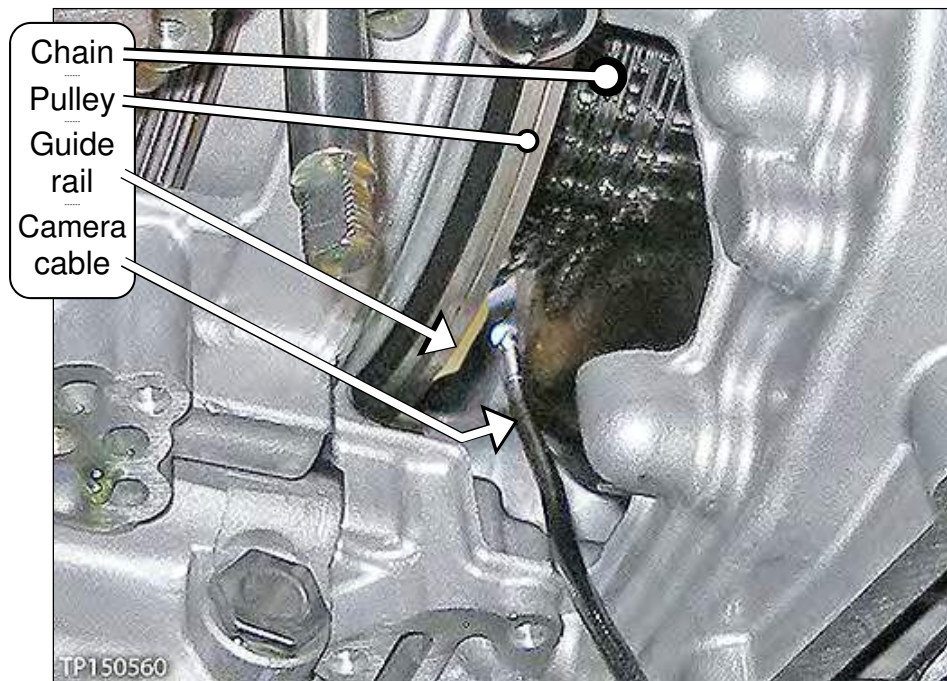
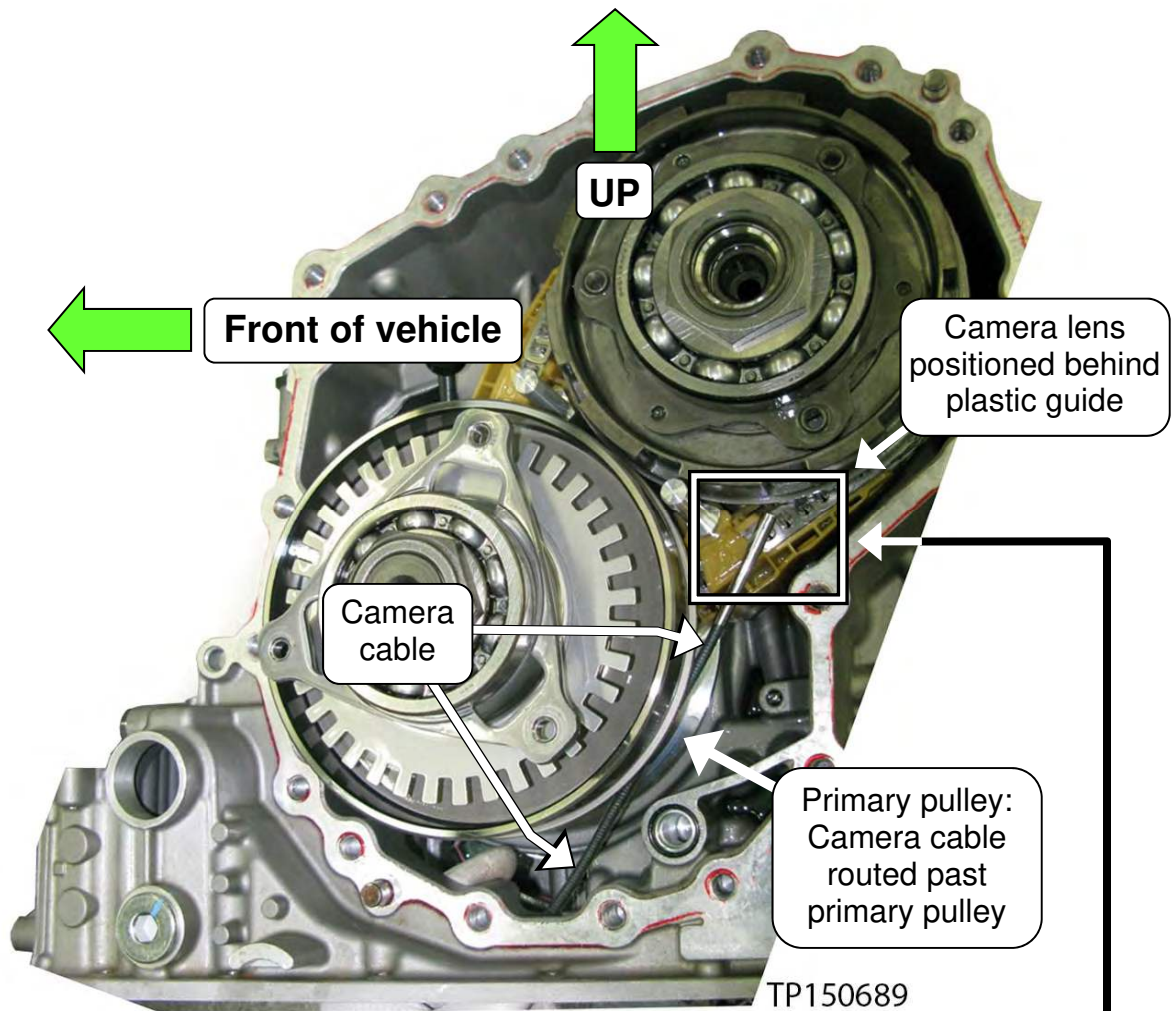
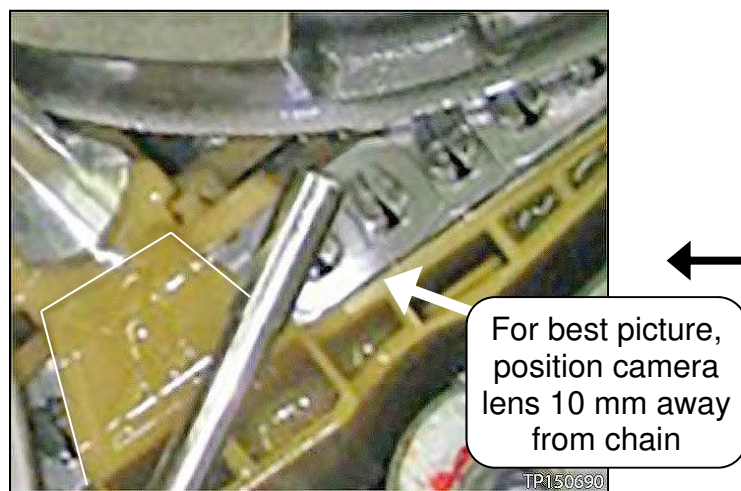

Figure 11
Figure 13
Figure 14
- a. First inspect the entirety (360°) of the driver side of the chain that comes in contact with the pulley (see page 11, Figure 13 and Figure 14, and page 12 Figure 15).
- Insert the camera lens behind the pulley between the guide rail and the pulley where shown in Figure 9 (also see pages 10-11, Figure 11-Figure 14).
- Figure 11 shows where to insert the camera lens on the driver side of the chain.
- Figure 13 and Figure 14 shows the routing and location of the camera.